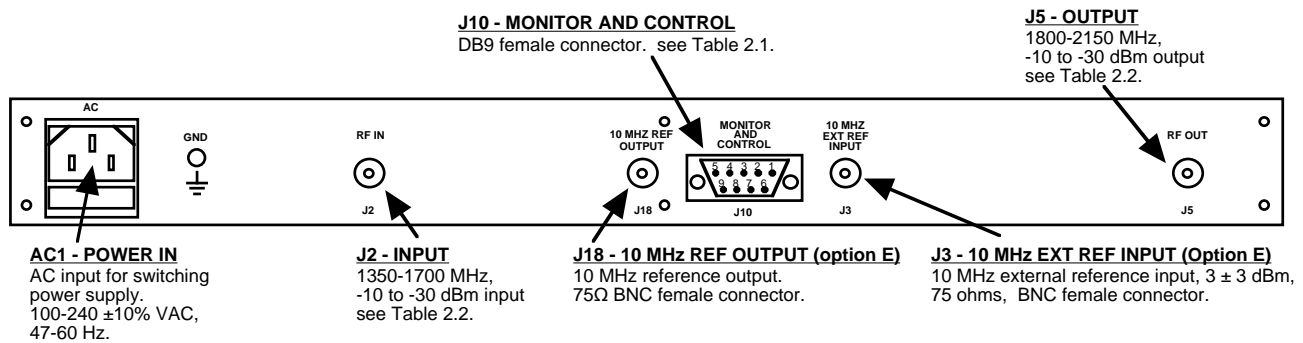

FIGURE 2.1 2083-1721 Rear Panel I/O's
Figure 2.1 shows the input and output connectors on the rear panel.
1. Connect a -10 dBm to -30 dBm signal to IN, J4 (Figure 2.1)